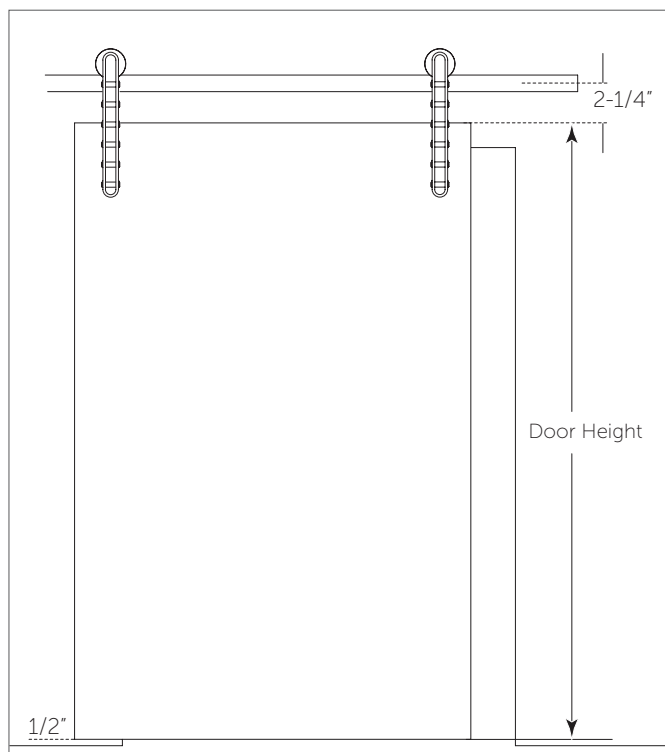

Figure 1
1. To determine where the track should be installed, first measure the height of the door, then add 2-3/4" to the door height. 1/2" will be for the clearance between the bottom edge of the door and the floor. 2-1/4" will be from the top edge of the door to the center of the track (Figure 1).